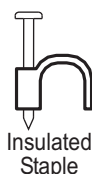

FIG. 4-1 Mark door frame.
- Mark both sides of garage door frame or wall no higher than 6" and no lower than 5" above floor. (Fig. 4-1).